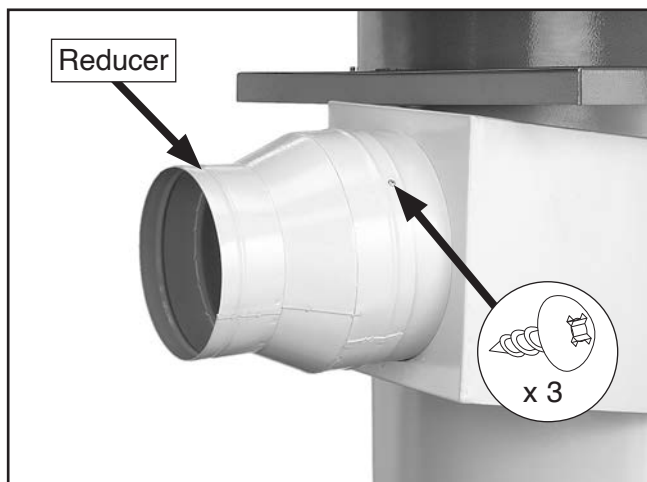

Figure 40. Reducer installed.
42. Slide reducer over inlet port (**Figure 40**) and secure with (3) M4 x 12 sheet metal screws.